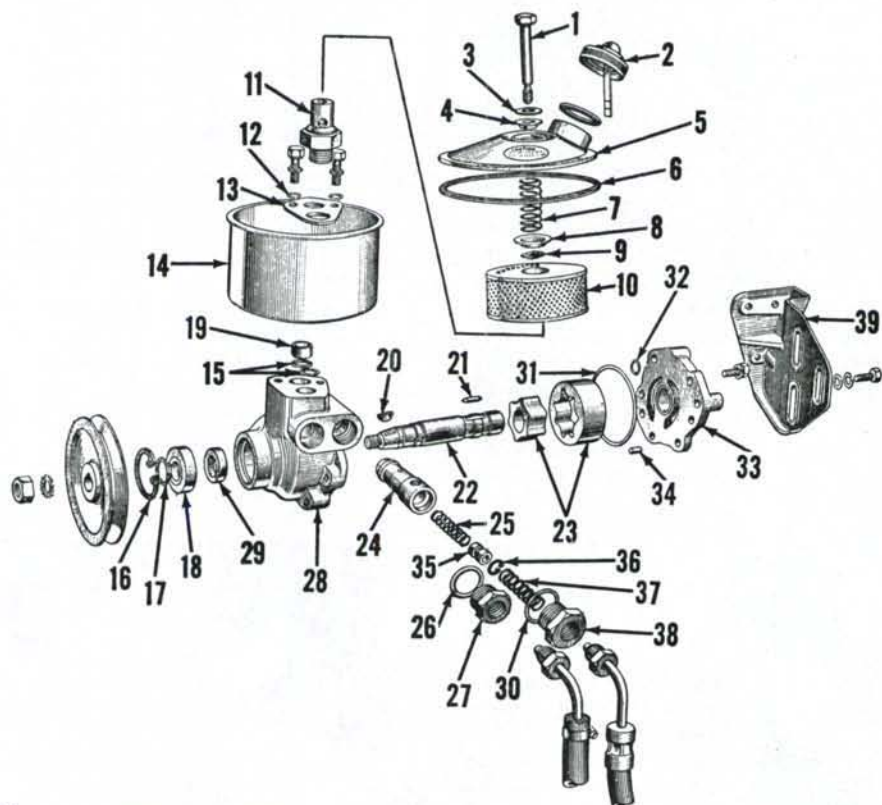

Fig. 10—Exploded view of the power steering pump and reservoir assembly. Pump bracket (39) for early models is different than shown.
If the gage pressure is more than 800 psi, the relief valve is probably stuck in the closed position. If the gage pressure is less than 720 psi, renew the relief valve spring (25—Fig. 10) and recheck the pressure reading. If the gage pressure is still too low, it will be necessary to overhaul the pump as outlined in paragraph 26.
26. **OVERHAUL.** With pump removed from tractor as outlined in paragraph 25, refer to Fig. 10 and proceed as follows: Remove the reservoir spring and filter assembly, then clean the pump assembly. Remove the reservoir retaining cap screws and the reservoir stud (11), then lift reservoir and reservoir retaining plate (13) from pump body. Remove and discard the two "O" rings which are between reservoir and pump body. Remove the nut and lockwasher retaining pulley to pump shaft and using a suitable puller, remove pulley. Remove the four cap screws which retain pump cover (33) and separate pump cover and pump body (28). Remove and discard the two "O" rings from their grooves in pump body. Remove the pump rotors (23) and rotor drive key from pump shaft. Remove snap ring (16) retaining rotor shaft